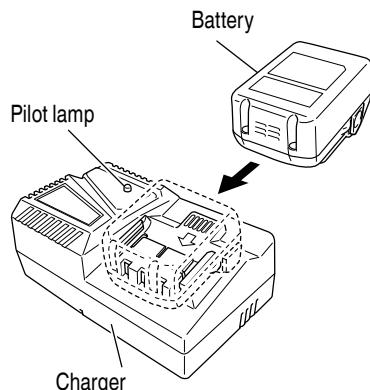

Fig. 4
- Insert the battery into the charger. Firmly insert the battery into the charger as shown in Fig. 4.